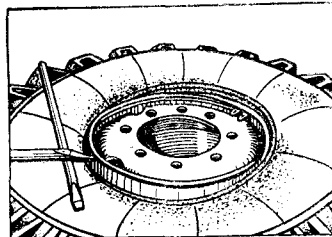

Fig. 89. Landing Tyre Bead in Rim Mounting Groove
4. To mount the other tyre bead over the rim, step on the tyre at the side *a* opposite to the valve and depress this portion of the tyre casing bead into the mounting groove, in that, the tyre bead in the limiter zone should be at the top above the rim. In the case of difficulty, land the part of the tyre bead on the shoulder using the tyre irons, as described in Fig. 89.